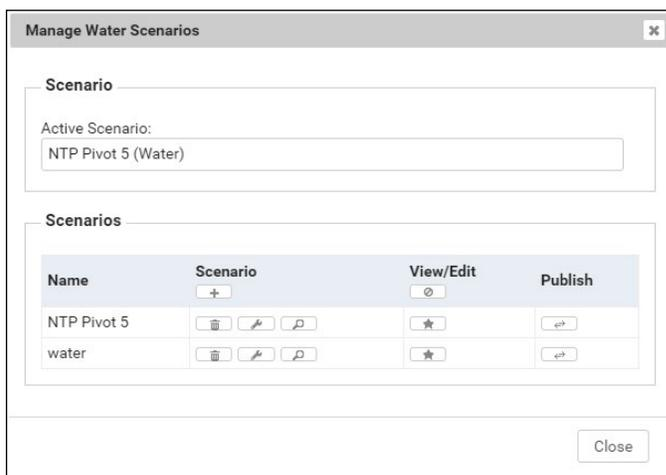

Figure 13-2
2. To add a new scenario, click the  Add button. Refer to Figure 13-2.